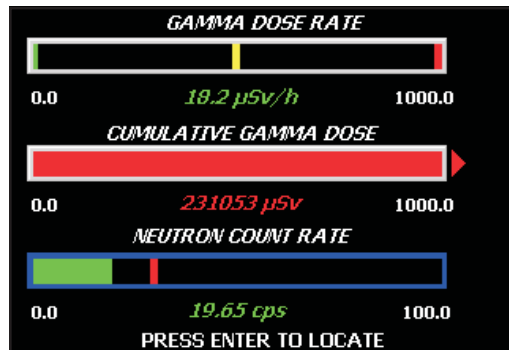

Figure 17 Composite Neutron Display
- Composite Neutron – Displays the current Gamma Dose Rate, the Cumulative Gamma Dose and the Neutron Count Rate as bargraphs (Figure 17).